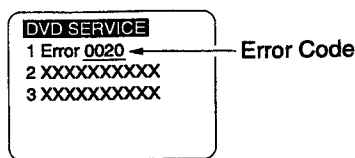

Fig. 2-4
- If something error is detected, 4 digit for Error Code will appear as shown in Fig. 2-4.